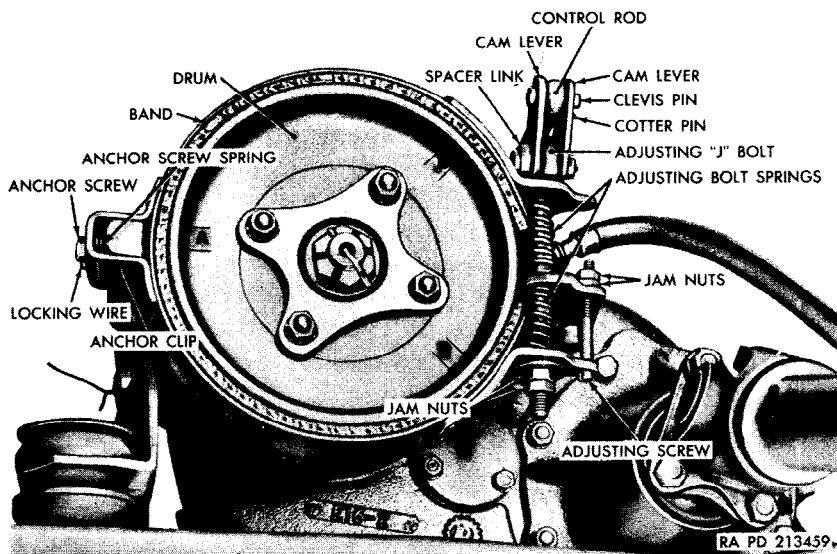

Figure 183. Handbrake band adjustment.
a. Adjust Handbrake Band (fig. 183).
- (1) Place the vehicle on a level floor and place the handbrake in the fully released position.
- (2) Remove the cotter pin and clevis pin that attach the control rod to the cam levers.
- (3) Remove the locking wire from the anchor screw.
- (4) Loosen the two jammuts on the adjusting J-bolt and the two jammuts on the adjusting screw.
- (5) Insert a 0.015-inch thickness gage between the brake lining and the drum at the anchor clip (point A). Turn the anchor screw as required until slight friction is felt as the gage is withdrawn.
- (6) Insert the thickness gage at point B and turn the upper nut on the adjusting J-bolt as required to establish the same clearance as at point A.
- (7) Insert the thickness gage at point C, hold the adjusting screw, and turn the lower nut on the adjusting screw as required to establish the same clearance as at points A and B.
- (8) Check the clearance between the lining and the drum at several points. Clearance should be approximately 0.015 inch at all points.
- (9) When the adjustment has been completed, tighten the jammuts on the adjusting J-bolt and the adjusting screw. Secure the anchor screw with locking wire, attaching the wire to the
- (1) With the brake control rod detached from the cam levers (*a(2)* above), loosen the nut at the yoke end of the brake control rod (G, fig. 162) and turn the rod in the yoke until the eye of the rod is in alignment with the clevis pin holes in the two cam levers (fig. 183).
- (2) Attach the control rod to the cam levers with the clevis pin and $\frac{5}{32} \times 1$ cotter pin.
- (3) Tighten the nut against the yoke.